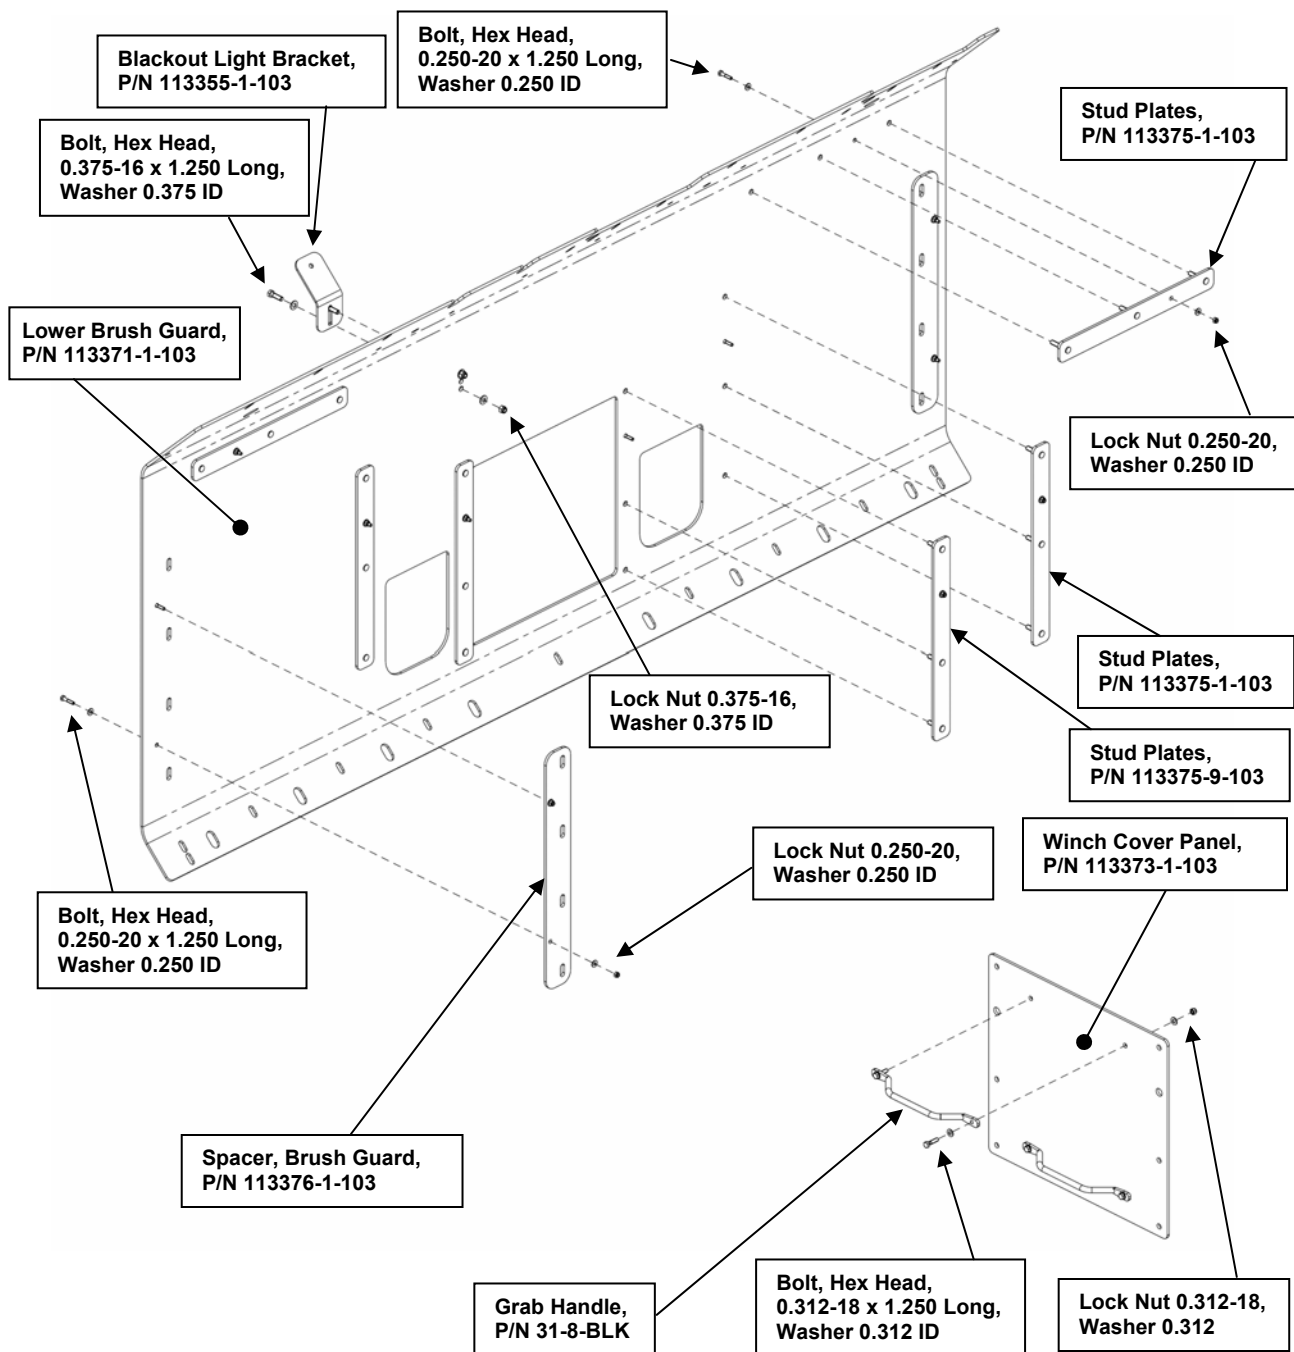

Figure 47. Lower Brush Guard and Winch Cover.
- b) Install the six Stud Plates to the Lower Brush Guard (P/N 113337-1-103) using the hardware shown in Figure 47.
- c) Install the Blackout Light Bracket (P/N 113355-1-103) using the hardware shown in Figure 47.
- d) Install the Brush Guard Spacer (P/N 113376-1-103) using the hardware shown in Figure 47.
- e) Install the two Grab Handles (31-8-BLK) to the Winch Cover Panel (P/N 113373-1-103) using the hardware shown in Figure 47.